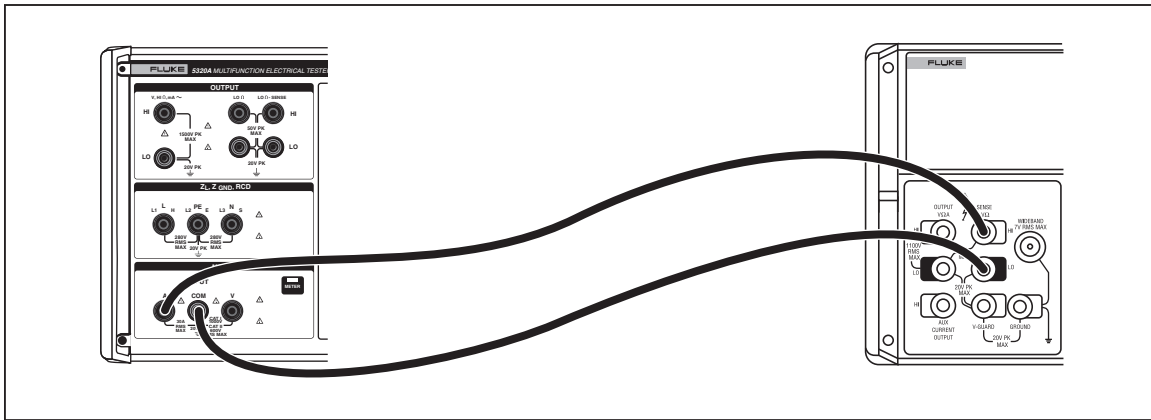

Figure 3-24. AC HIPOT Leakage Calibration Connections
1. Connect the Fluke 5520A to the Calibrator's output terminals as shown in Figure 3-24.